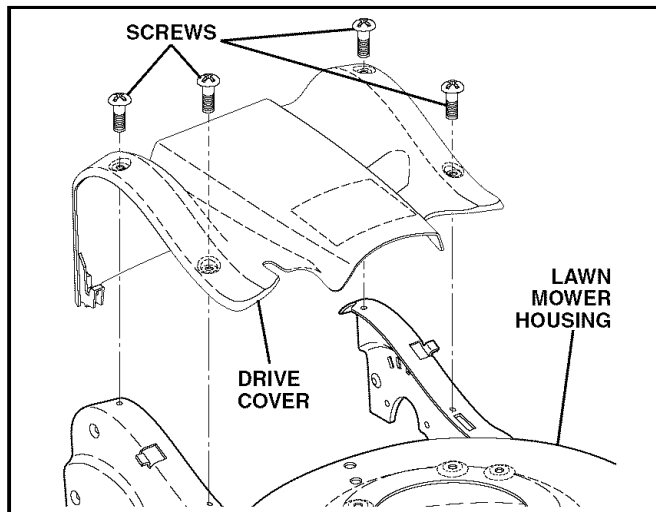

FIG. 17
## TO REMOVE DRIVE BELT (See Figs. 17–19)
2. Remove screws retaining drive cover and remove drive cover from lawn mower housing (See Fig. 17).
## TO REPLACE DRIVE BELT (See Figs. 17–20)
11. Reattach drive cover with screws previously removed (See Fig. 17).